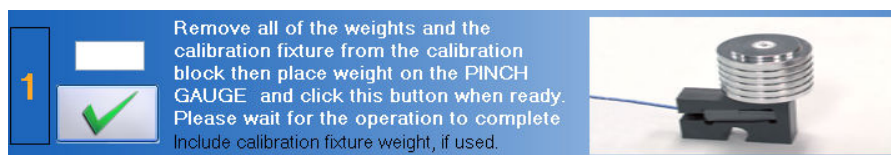

Figure 6-12. Pinch Gauge - Verify the Weight
Step 1. Place the Pinch Gauge in the calibration block and insert the calibration fixture. Place the 10 lb calibration weight on the calibration fixture and type **10.6** (calibration fixture plus calibration weight) in the text field (Figure 6-12).
Step 2. Click on  to verify the weight (Figure 6-12).